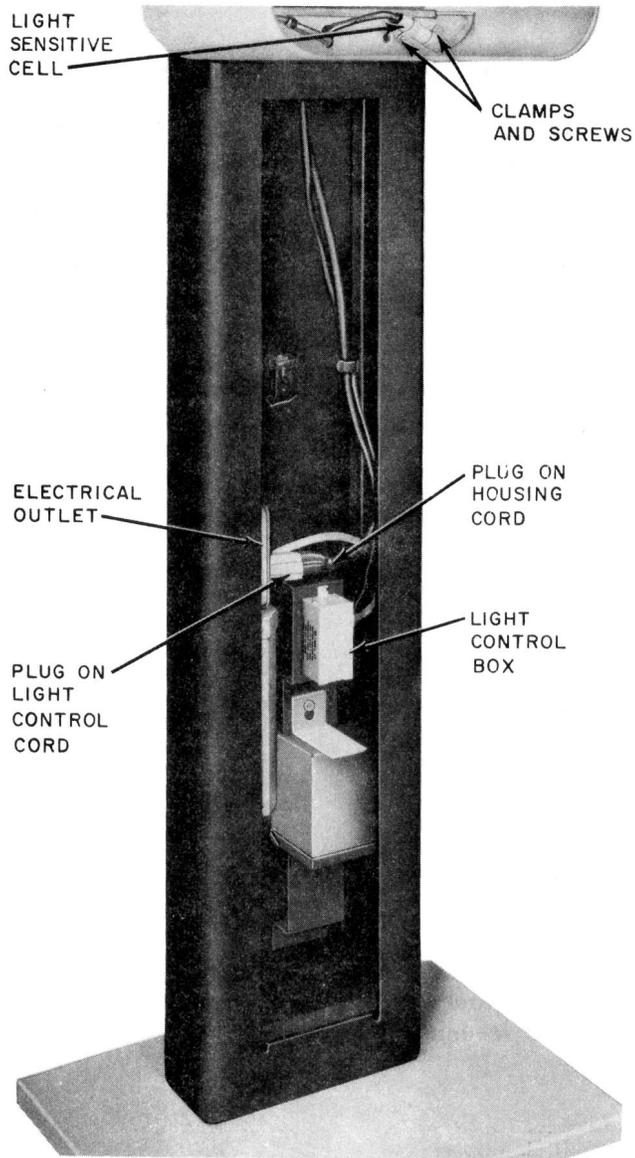

Fig. 27—KS-19261, List 4 Light Control Unit (Early Model) Installed With Single List 31 Housing
3.12 Install the post mounted List 31 housing (Fig. 27) as follows.
3.18 On maintenance visits where a KS-19261, List 4 light control unit has been installed in conjunction with a KS-20842 SENTRY public telephone enclosure List 31, 32, 33, 34, 35, or 35A housing (Fig. 27, 28, 31, 32, or 33) make sure a protective cover is in place over the light sensitive cell grid. A protective cover (supplied by light control manufacturer) is installed as follows.